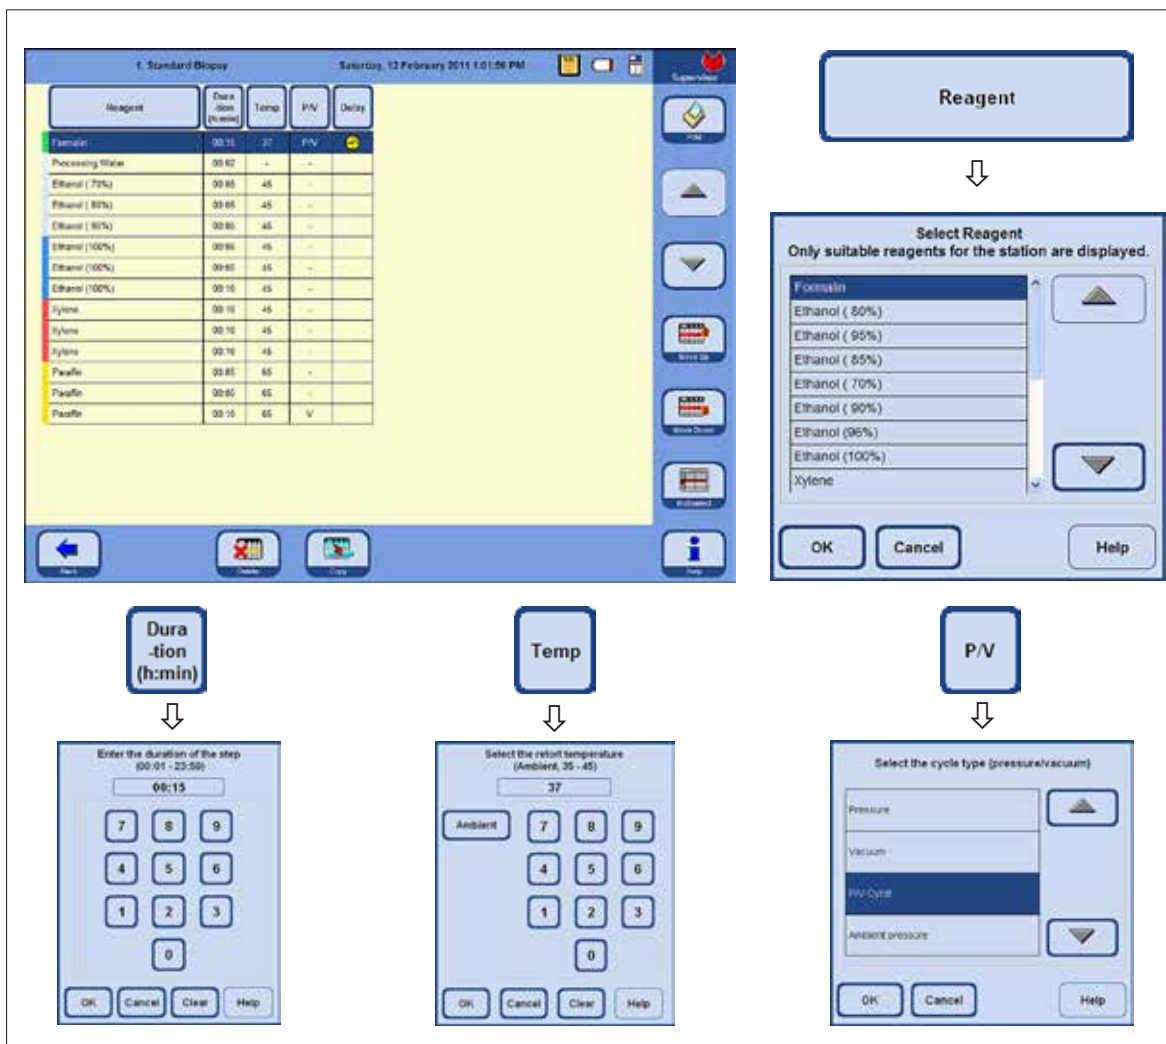

Fig. 160
- Pressing the **EDIT** button (in Fig. 158) calls up the Program steps screen (Fig. 160).
#### The following characteristics of each program step can be edited: (Fig. 160)